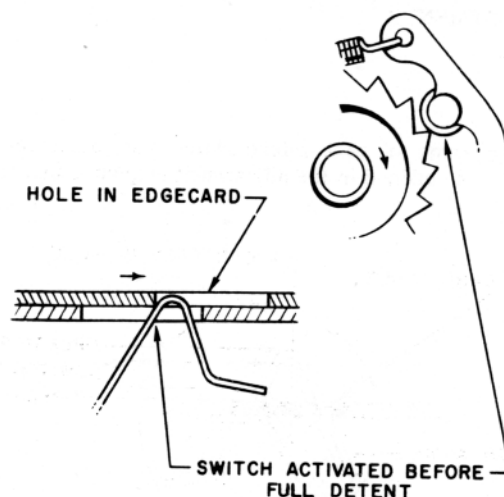

Figure 2.
5. Feed a card through the machine until the operator arm of the card position micro switch comes up through the hole in the card (Figure 2). Continue to rotate the pin wheel; the switch must operate before the pinwheel assembly fully detents. Position the card position micro switch vertically to obtain this adjustment; tighten the mounting screws.